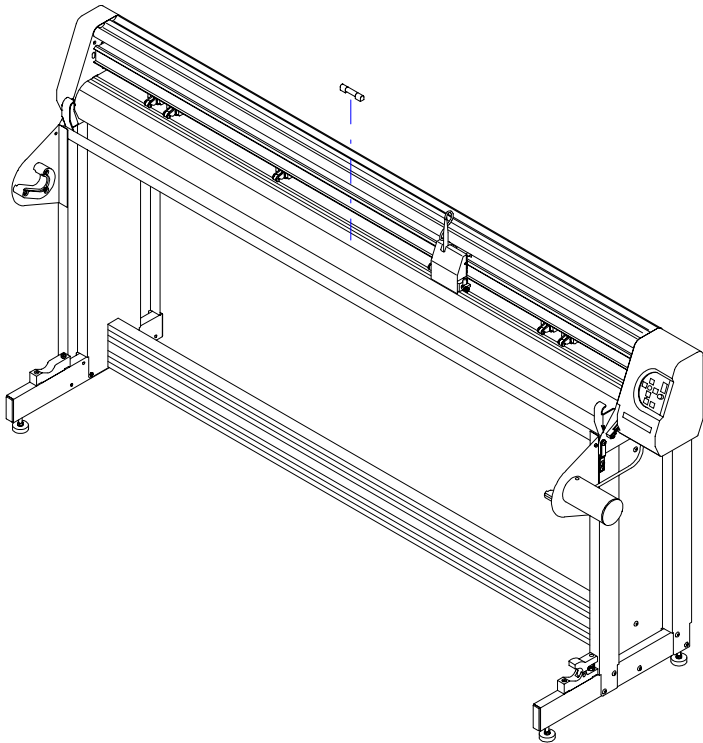

Figure 12. Checking that the plotter is level on the stand.
1. Place a level on the platen so that it is parallel to and in front of the grit shaft. Make small adjustments to the threaded feet if the machine is not level. If the machine is difficult to level check the plotter for shipping damage and contact your distributor or Ioline Customer Service. See *Figure 12*.